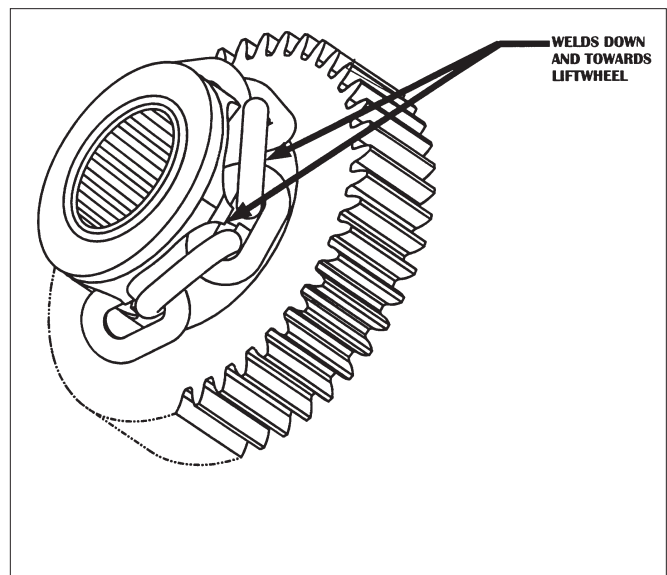

Figure 26: Chaining Hoist
3. Feed a short length of soft wire through the opening in the chain guide/stripper until it comes out of the hoist. Attach "new" chain to end of the wire which is in the center of the hoist. Position the chain so that the welds will be down and towards the liftwheel as shown above in Figure 26.